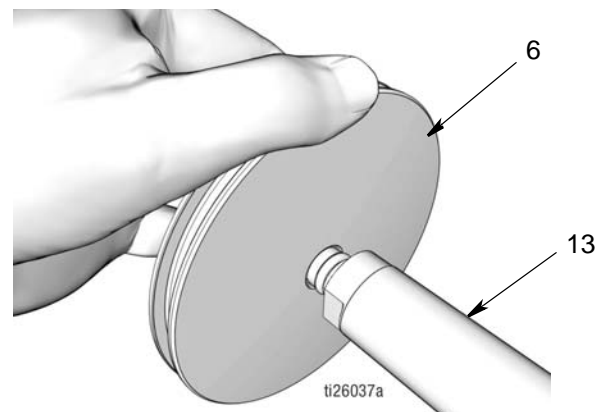

FIG. 50
- c. Push piston (6) over end of piston rod (13) until it is seated on the rod (FIG. 50).